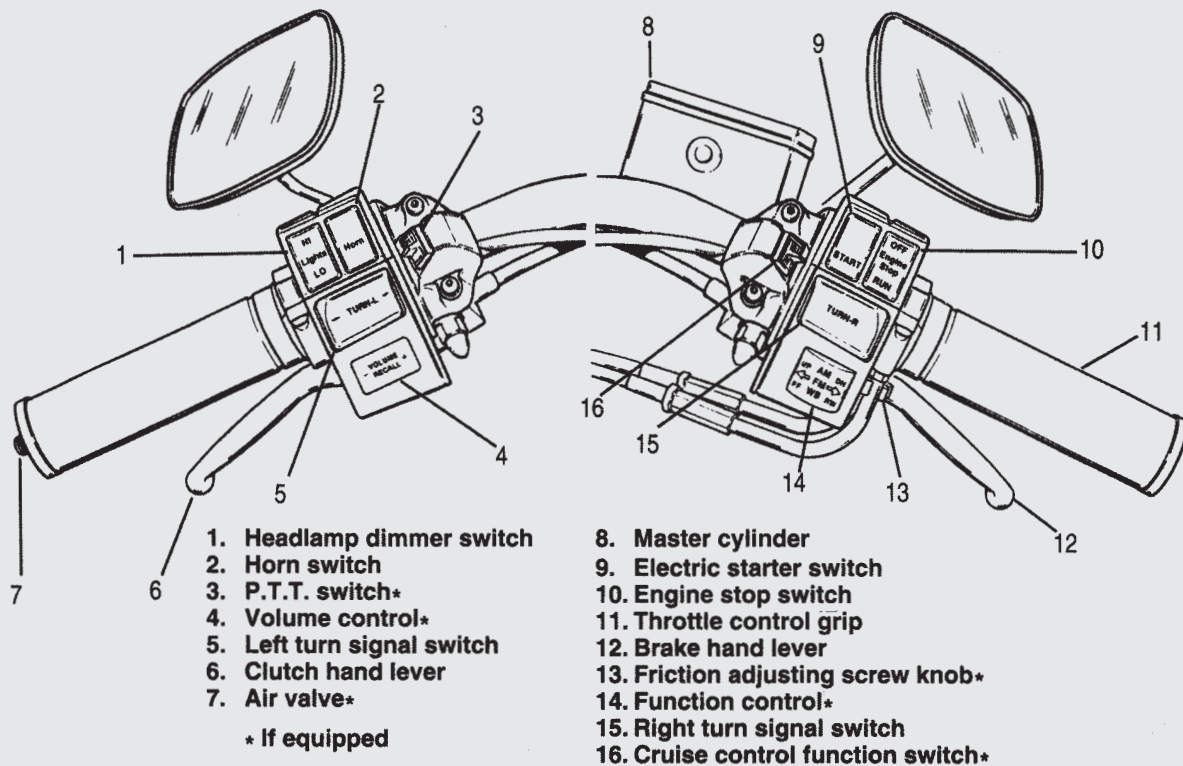

Figure 2. Handlebar Controls
See Figure 2. The electric starter switch (9) is located on the right handlebar control group. Put engine stop switch (10) in RUN position and transmission in neutral. Turn ignition ON and push the START switch to operate starter motor.
See Figure 2. Engine stop switch (10) is located on the right handlebar control. The engine stop switch turns ignition ON or OFF and should be used at all times to stop the engine, especially in an emergency. To stop engine, push switch to position marked OFF - then turn key to OFF.
See Figure 2. The throttle control grip (11) is located on the right handlebar control group. Turn control grip clockwise to close throttle; turn control grip counterclockwise to open throttle.
See Figure 2. The clutch hand lever (6) is located on the left handlebar where it is operated with the fingers of the left hand. Pull lever in against handlebar grip to disengage clutch; release the lever slowly to its outward position to engage clutch.
The brake pedal controls the rear wheel brake and is located on the motorcycle's right side. It is operated by the right foot. See Figure 2. The brake hand lever (12) controls the front wheel brake and is located on the right handlebar. It is operated by the fingers of the right hand.
See Figure 2. The horn is operated by the horn switch (2) on the left handlebar control group.
See Figure 2. The headlamp dimmer switch (1) on the left handlebar controls the headlamp high and low beams.
Controls (Figures 2 and 5 and Table 2)